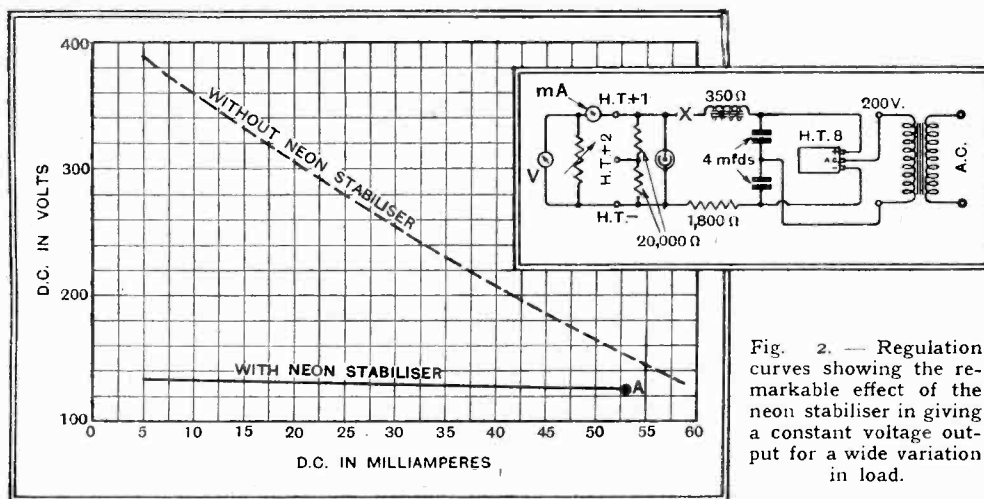

Fig. 2. — Regulation curves showing the remarkable effect of the neon stabiliser in giving a constant voltage output for a wide variation in load.
in circuit at X (see Fig. 2), which, of course, registers the total current taken by the receiver, the potentiometer for H.T.+2 and the stabiliser. The reading remains almost steady at 60 mA., the greatest
Regulation curves of the eliminator, with and without the neon tube, using the circuit shown inset, have been taken, and are given in Fig. 2. The effect of the stabiliser is remarkable, and it is only with a device of this kind that a receiver imposing widely varying loads can hope to give really distortionless results. It is interesting to note that should the receiver load exceed 53 mA. (the point A)—which only results from gross overloading—the neon tube is extinguished and the stabilising effect ceases.
Fig. 2.—The magnetic lines of force form rings of various diameters around a wire (A) carrying current, and a few of them may link or couple another wire (B) at a distance.
Every condenser which is receiving an alternating charge requires that the charge shall run in and out of it, and therefore possesses a magnetic field—in other words, has inductance. But in the best condensers this effect is of little account compared with that due to the electric field. Similarly, while a tuning, choke, or transformer coil has a difference of potential (voltage) between various parts of it, and so creates an electric field, giving rise to the objectionable self-capacity, it is noted chiefly for the magnetic effect due to the current round the turns of wire (Fig. 2).